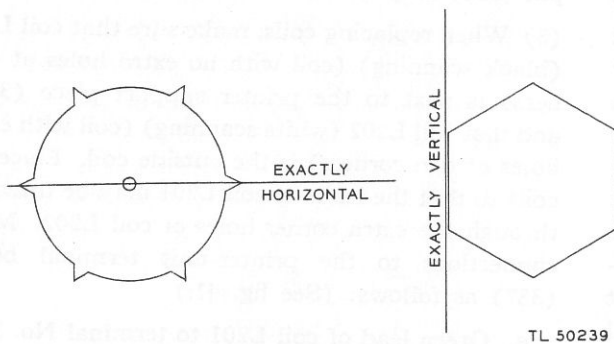

Figure 38—Relationship between printing helix and rotating prism
any two diametrically opposite threads of the helix, when viewed from the front, will be exactly horizontal when any two opposite faces of the prism are exactly vertical. This relationship is shown in figure 38. To accomplish this, loosen the setscrews in the hub of the rotating-prism drive gear (344) on the worm-gear shaft in the gear housing (fig. 27). Turn this gear on its shaft until the helix and the hexagonal prism reach their correct relationship. Then tighten the setscrews on the shaft. Make sure that the teeth of this gear and the idler gear (209) are fully engaged before tightening the setscrew.